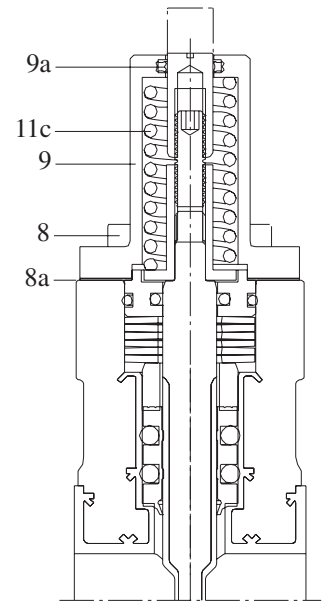
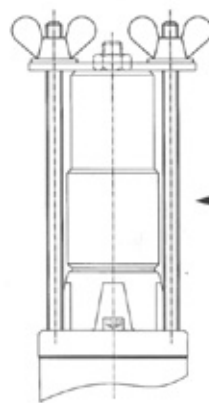

Figure 14
Figure 13.1
4. Remove two opposing socket head screws (8) replacing them with the two threaded rods from the spring tension device from tool kit SV-W3.
5. Place the two-hole plates over the threaded rods followed by the washers and secure with wing nuts as shown in Fig. 13.1/14.1.
8. Remove bonnet (9) and gasket (8a) from the valve body.
9. On bayonet adaptor models only: remove and replace the X-ring seal (9a) (see Fig. 14).